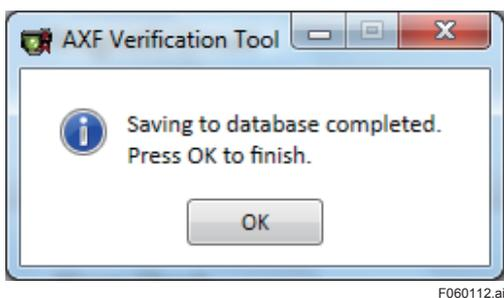

Figure 6.1.12 “Saving Completed” Dialog
- 3) **Figure 6.1.12** is displayed automatically. Click “OK”.